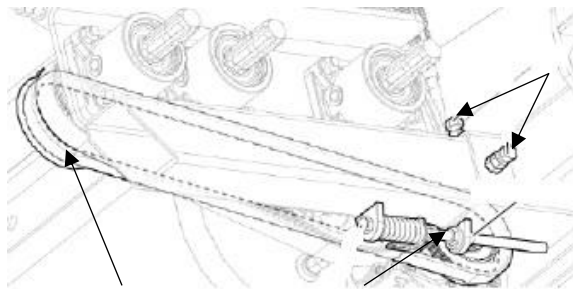

Figure 24
2. Loosen the lock nuts at the front of the GT case and remove the adjusting bolt under the left-hand GT case. Figure 24